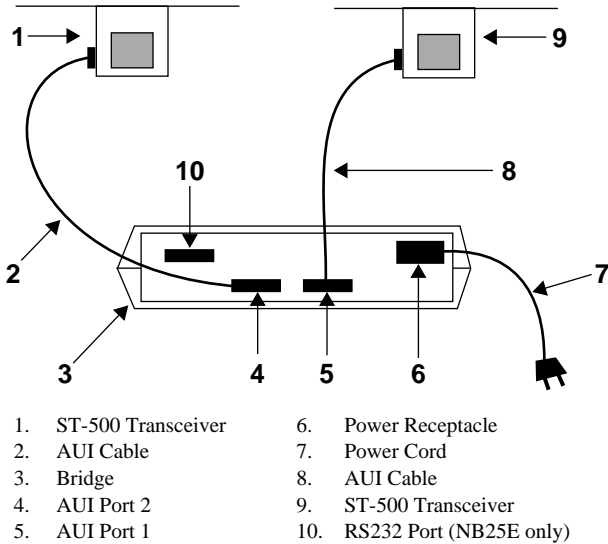

Figure 3-3 Installation
1. For each network segment to be connected to the bridge, attach an external transceiver (1, 9, Fig. 3-3). Refer to the applicable transceiver manual to connect the transceiver.
1. If you have not already done so, plug the power cord (7, Fig. 3-3) into the power receptacle (6) located on the rear panel of the bridge.